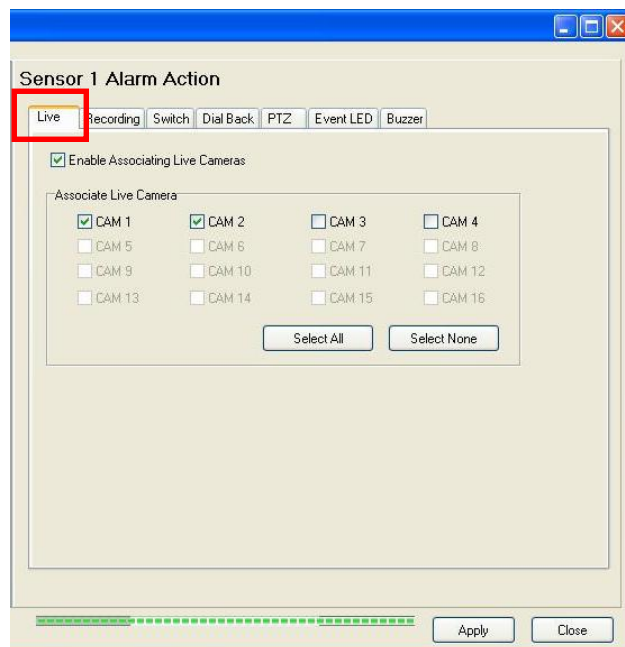

Fig 8.2.1a
Step 1 : In {(Event) Action} panel, click [Live] option to set live camera setting as **Fig 8.2.1a**.